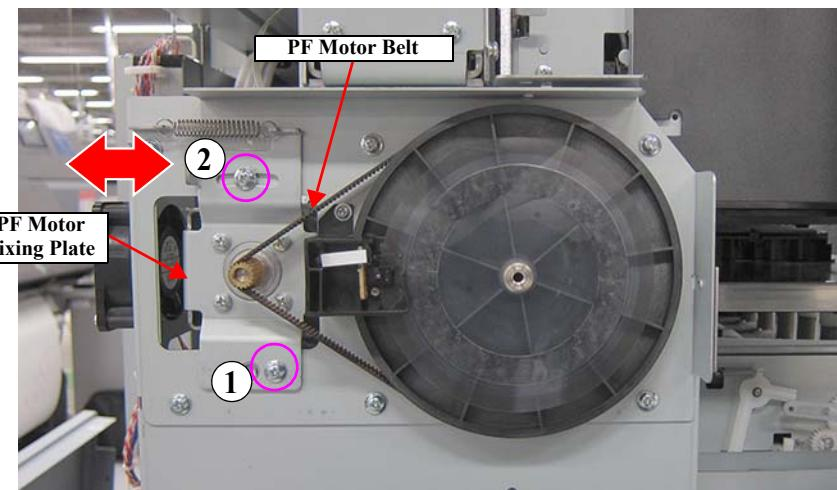

Figure 4-65.
4. Tighten the 2 loosened screws in the order indicated in Figure 4-65.